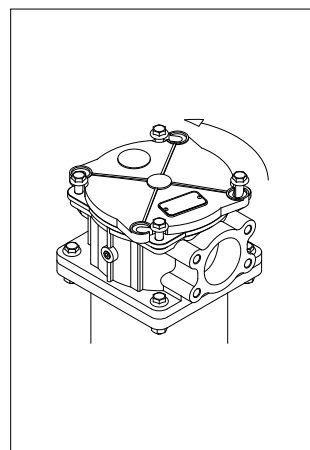

fig. 32
- (Fig. 32) Press and at the same time rotate the cover counterclockwise until the heads of the screws fit in slots